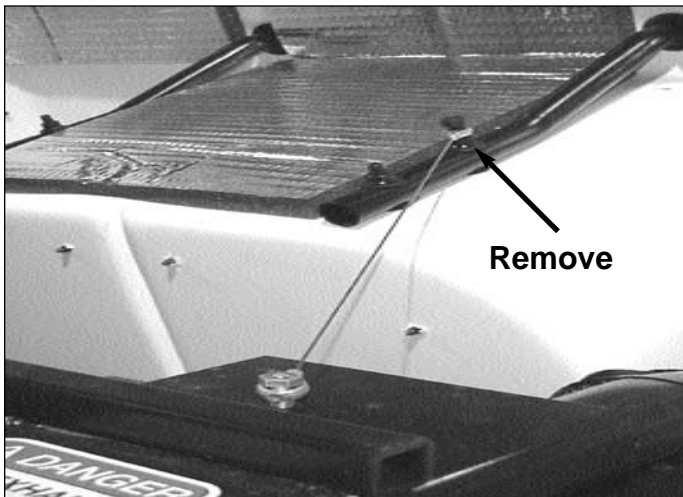
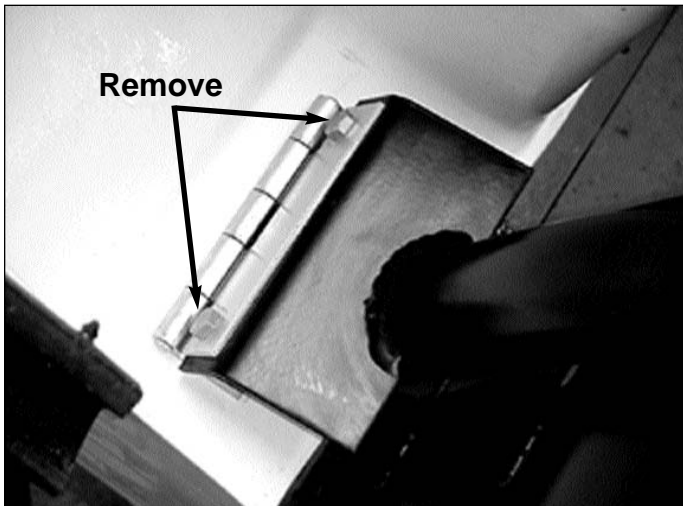

Figure 6 - Body Restraint Cable
Figure 7 - Body Hinge
1. Open rear body and disconnect body restraint cable from bag rack. See Figure 6. Close rear body and unbolt two hinges from rear body. See Figure 7. With hinges unbolted, grasp rear body by the bag rack and set aside.